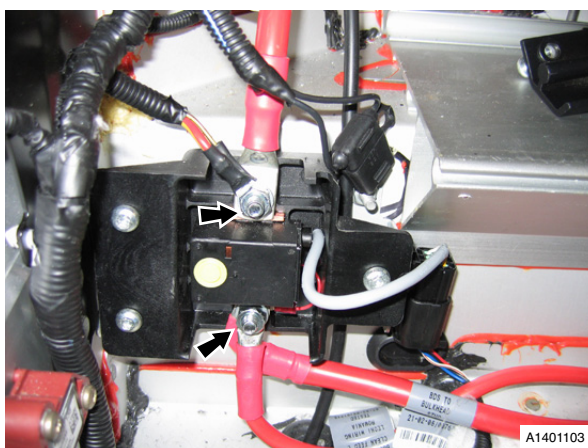

Fig. 2
9. Remove nut securing battery dirty feed cable to battery disconnection switch, release cable from battery disconnection switch (see Fig. 2).